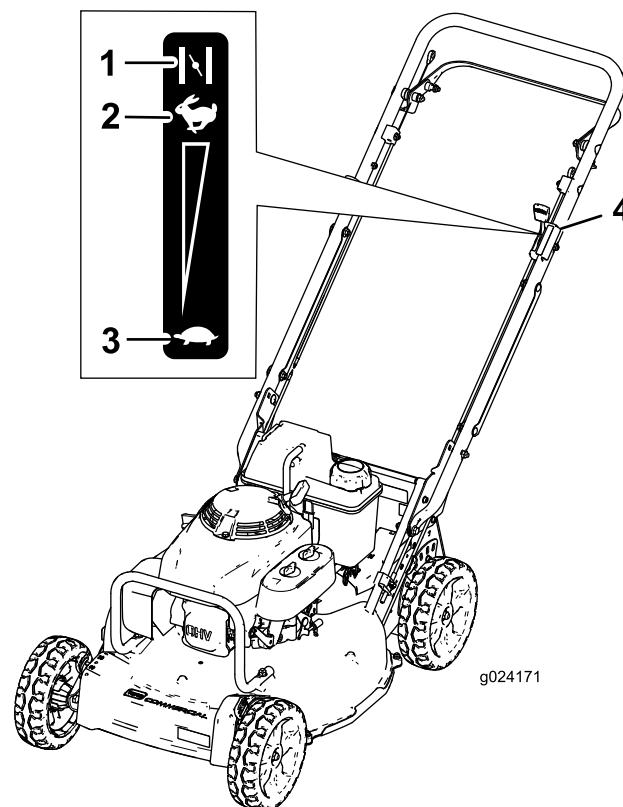

Figure 14
3. Move the throttle-control lever to the Choke position (Figure 14).
- When the engine starts, move the throttle-control lever to the Fast position (Figure 14).